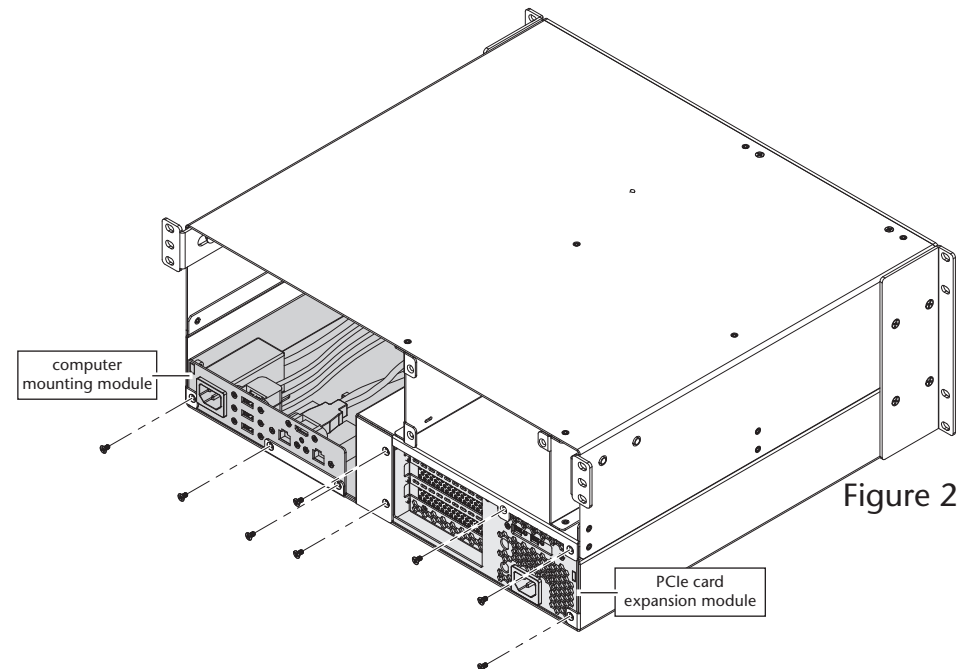

Figure 2
3. Using a Phillips screwdriver, remove and set aside the three screws securing the computer mounting module to the rackmount enclosure (Figure 2).
4. Using a Phillips screwdriver, remove and set aside the five screws securing the PCIe card expansion module to the rackmount enclosure (Figure 2).